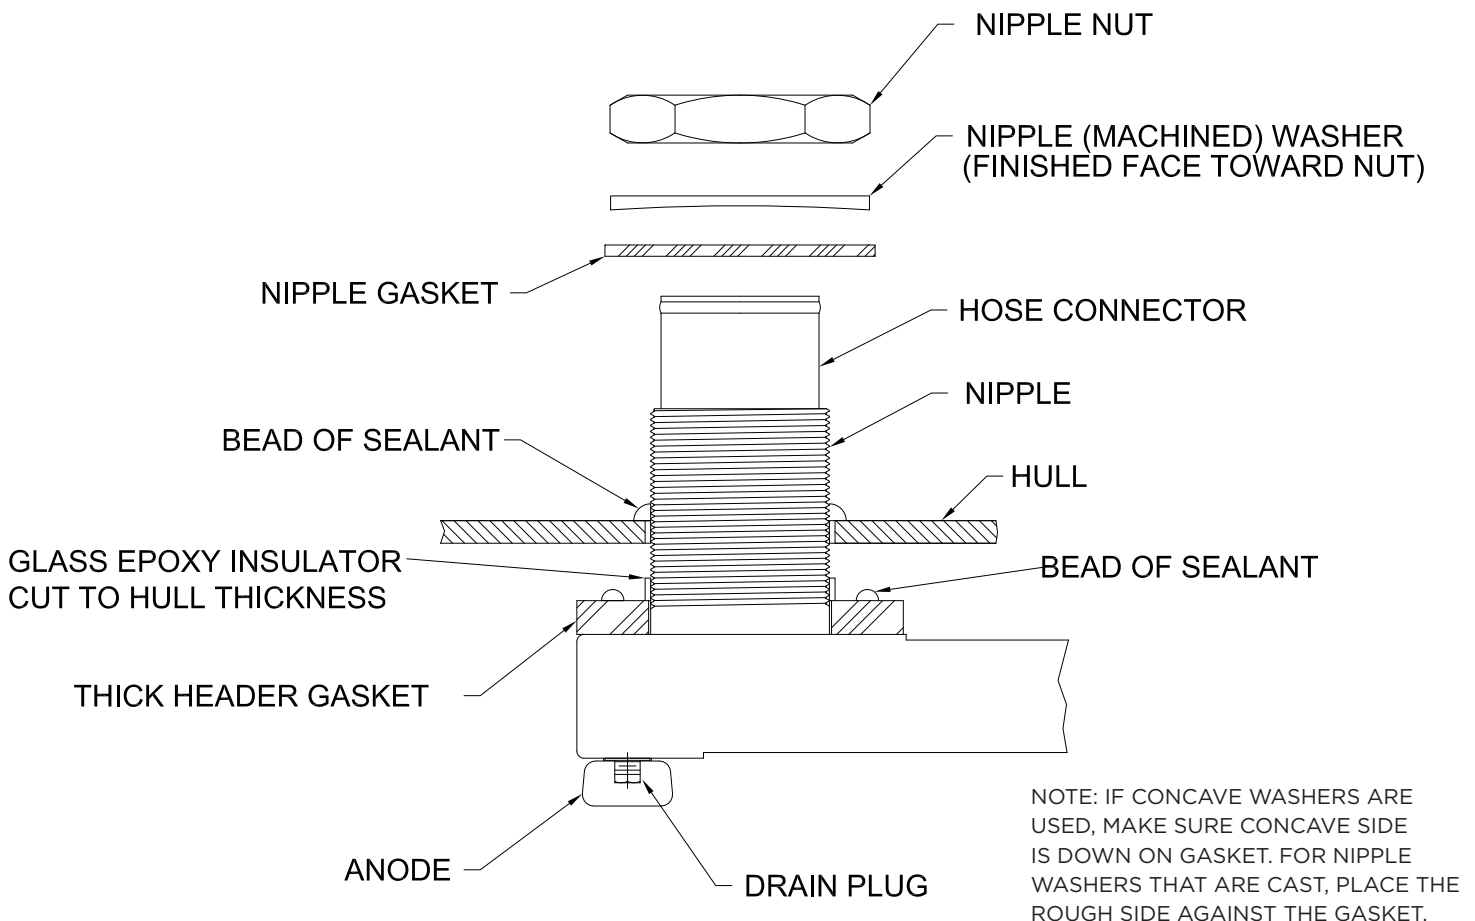

FIG.9 Mounting Parts Placement
2.3.1 Mounting gaskets supplied with the GRIDCOOLER Keel Cooler must be used to provide proper spacing between the unit and the ship's hull. See Figure 9. For exterior gasket thickness see the chart below, all exterior gaskets are available in 1/4" on request